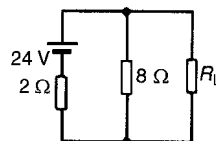

Figure 13.86
- 2 Determine the value of the load resistance R_L shown in Fig. 13.86 that gives maximum power dissipation and find the value of the power. [$R_L = 1.6\ \Omega$, $P = 57.6\text{ W}$]